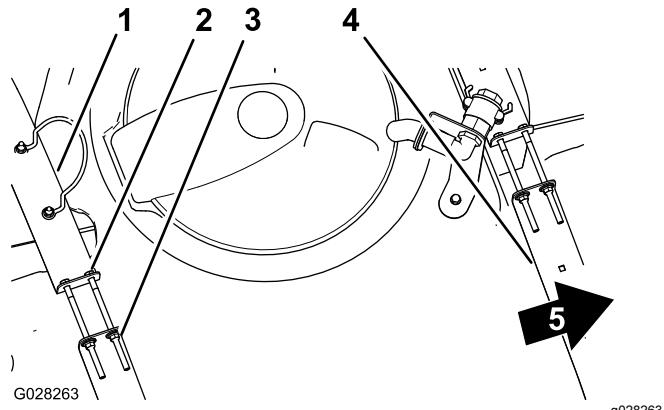

Figure 68
2. Check to see if there is any movement between the tank straps and the tank (Figure 68).
3. If the tank straps fit loose to the tank, tighten the flanged locknuts and bolts at the top of straps until the straps are flush with the surface of the tank (Figure 68).